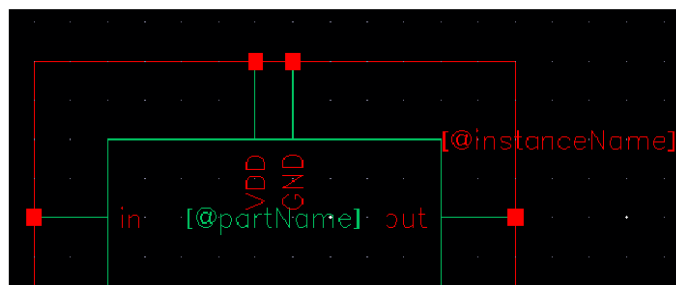
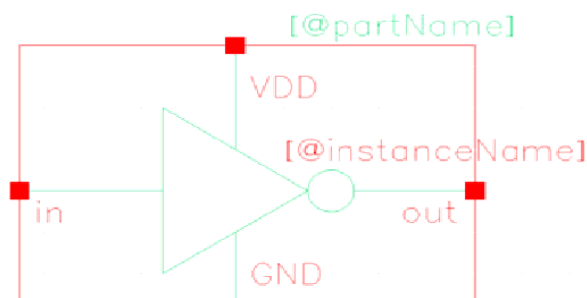

Figure 5. Default symbol of inverter
Figure 6. Complete inverter symbol
- The symbol which is initially created will look like Figure 5. Please modify the symbol so that it resembles a general symbol of inverter as given in Figure 6. Then save it.